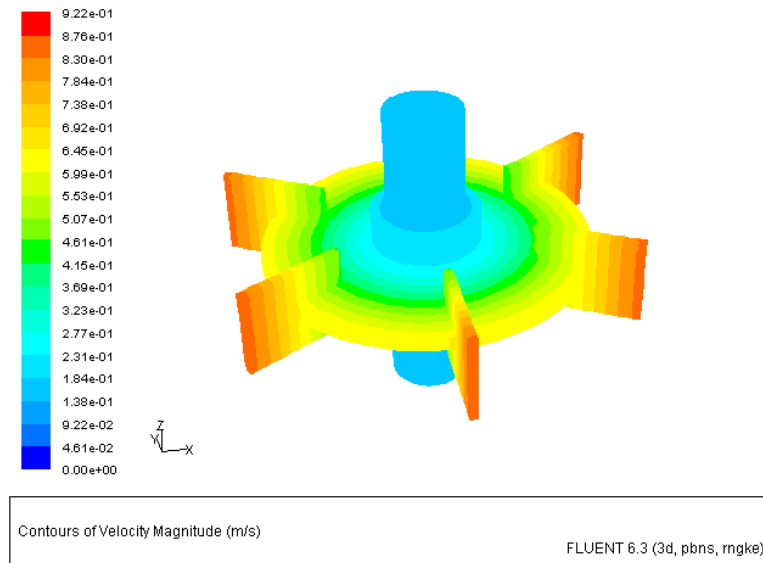

Figure 9.10: Contours of Velocity Magnitude on turbine
5. Display the velocity contours on surface, turbine (Figure 9.10).